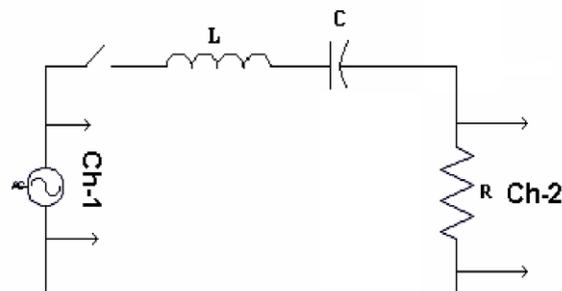

Fig.1
1. Construct the circuit as shown in the fig.1. Connect channel 1 of the oscilloscope across variac and channel 2 of the oscilloscope across R.